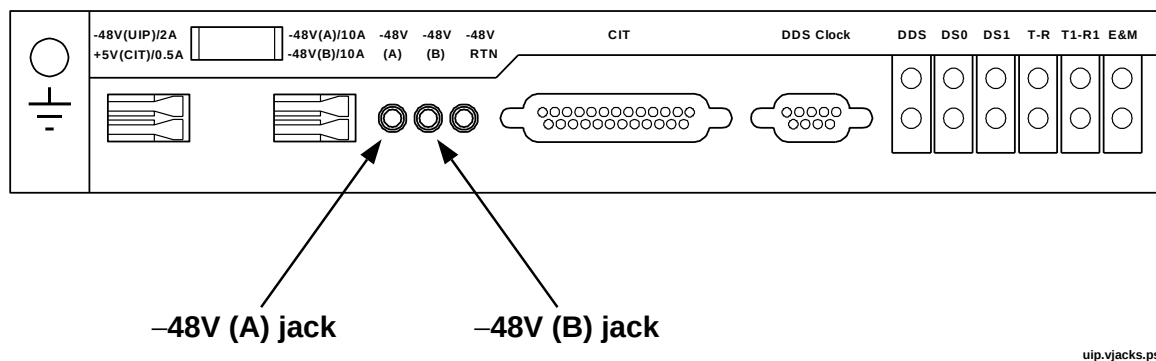

Figure 1 – Jack Locations
1. At the UIP (Figure 1), verify that the proper voltages are present between the following jacks and the **–48V RTN** jack:
- **–48V (A):** –42 to –56 V DC
- **–48V (B):** –42 to –56 V DC.